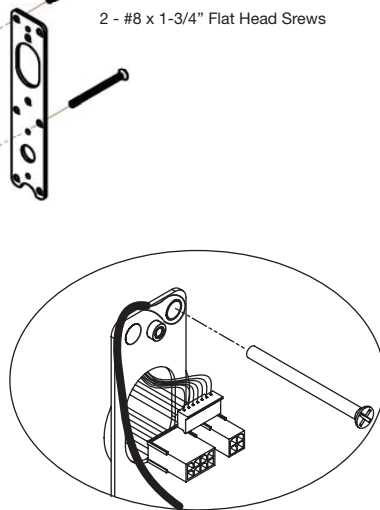

Fig. 5b Detail
- Connect ring terminal from pin 5 green/yellow ground wire to top right screw (Fig. 5b and 5c).